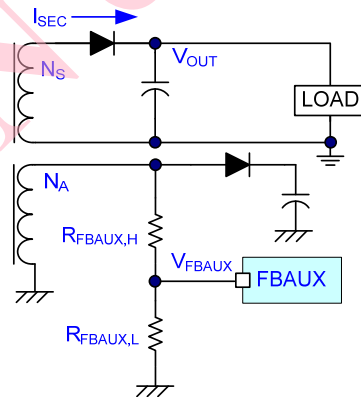

Fig. 22
In Power Delivery (PD) application, the output voltage varies from different settings. The chip monitors the output voltage which reflects from secondary to auxiliary winding through the transformer. A voltage detect mechanism is applied on FBAUX pin. The default proportion between V_{OUT} and FBAUX pin is 6.25:1 in typical. While the sampled voltage is higher than $V_{FBAUX,OVP}$ (5.4V) for several cycles, the over voltage protection will be activated. Please refer to Fig. 22, 23 for more detail.